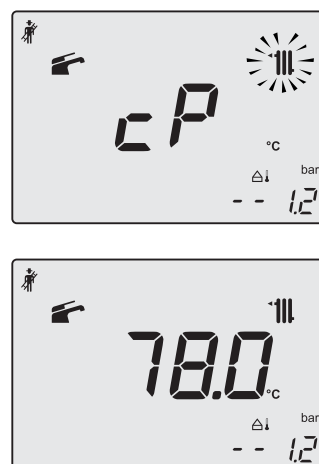

Figure 11.9
- 19 Press key G to vary the output in chimney sweep mode: when the display shows the letters **hP** that alternate with the heating water temperature value (e.g. 32), the "chimney sweep function" is at minimum power during heating (Figure 11.9);
- 22 Press key G to vary the output in chimney sweep mode: when the display shows the letters **cP** that alternate with the heating water temperature value (e.g. 78), the "chimney sweep function" is at maximum output in heating mode (Figure 11.9);